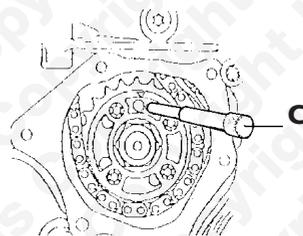

Fig. 3
3. The crankshaft locking pin (D) is used to set the crankshaft at TDC position. This tool is fitted through the crankshaft pulse pick-up opening in the engine block and locates into a slot in the crankshaft. (see Fig.3)